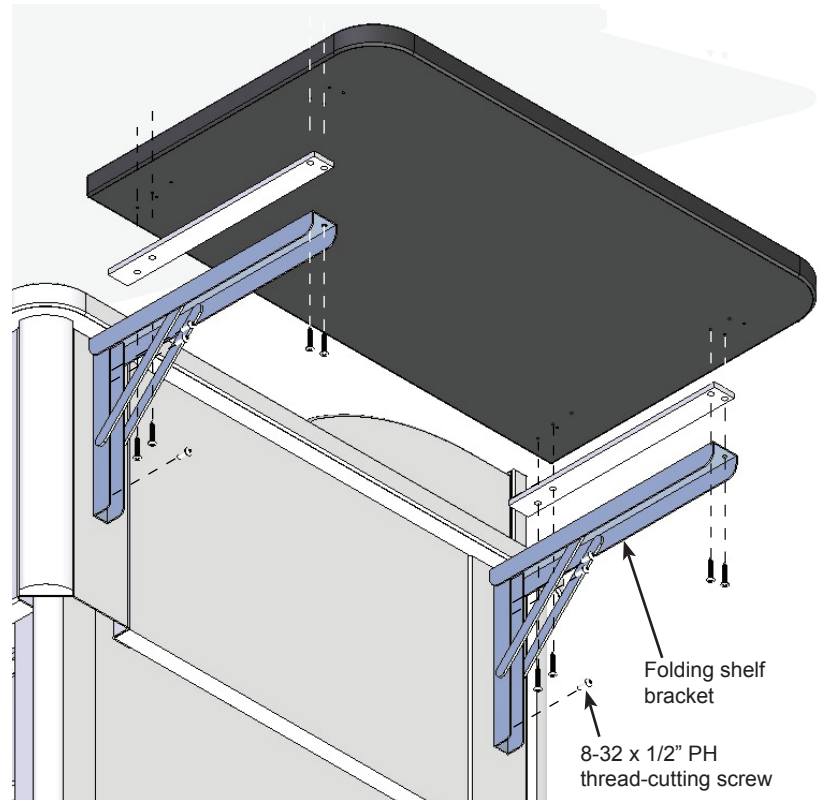

Figure 6B
1. If your shelf is not already installed, attach the folding shelf brackets to the preferred side of the lectern with (3) 8-32 x 1/2" PH thread-cutting screws. **Figure 6B.** Do not tighten completely yet.
2. Set a shelf shim on each bracket, then place shelf on top. Align all holes and secure with (8) #8 x 1" PHSM screws.